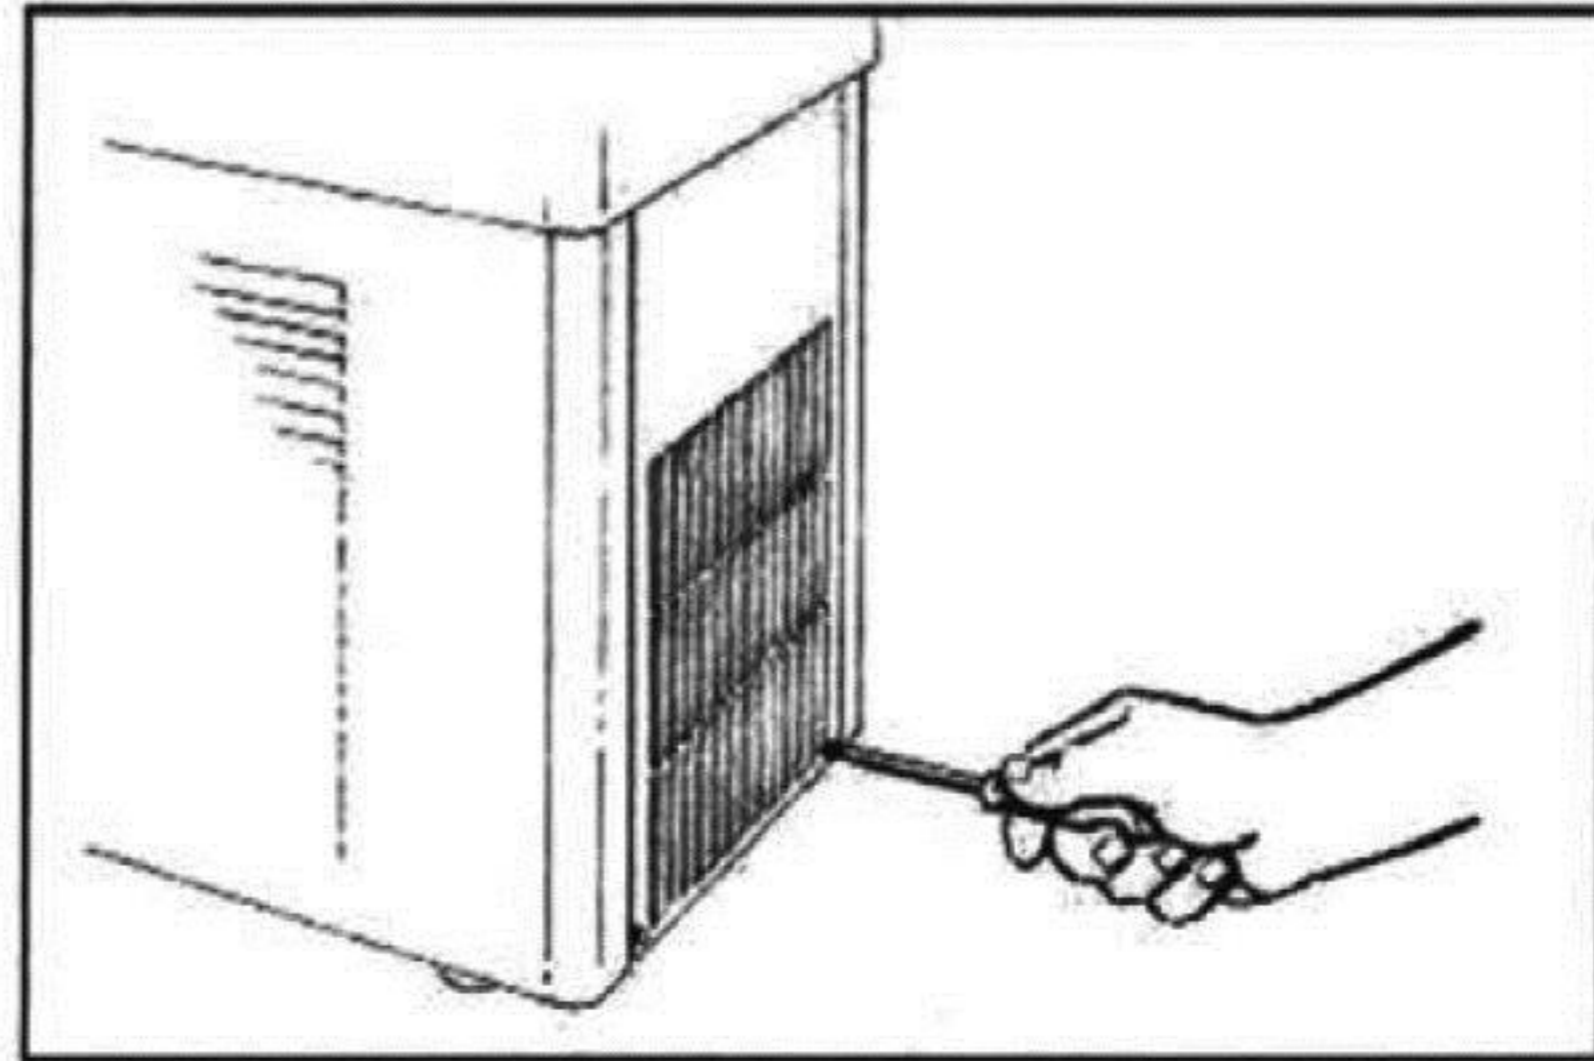

fig.41
- ICE6L machine: remove the rear panel by unscrewing the two bolts fastening it (fig.41);